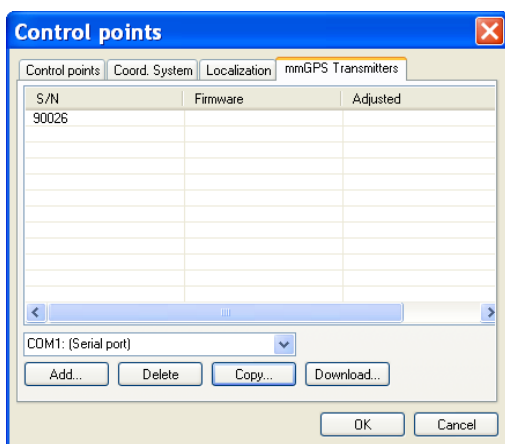

Figure 2-31. mmGPS Transmitter Information
The *Control points* dialog box displays (Figure 2-31).
2. On the *mmGPS Transmitters* tab, view the following information loaded mmGPS transmitters (Figure 2-31):